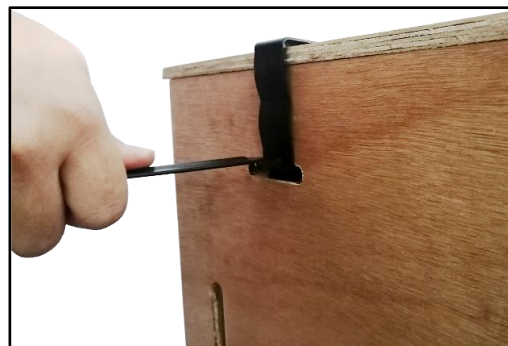

Figure 3-6 Fastener Press-fit Point
- (2) Align the removal tool (or flat-blade screwdriver) with the round hole at the hook of the fastener and press it in the direction of the force application point (Figure 3-6);
- (3) Remove the device protection foam from the packaging box to take out the device.